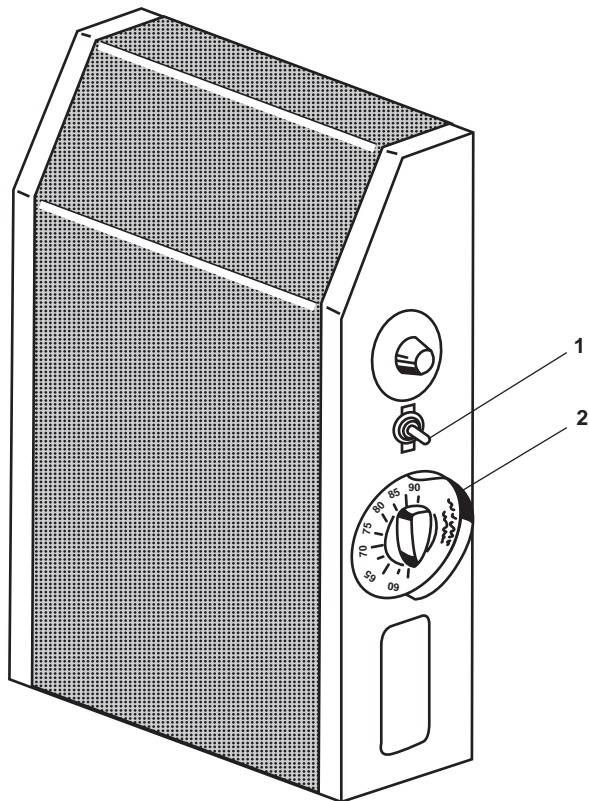

Figure 12. Convection Heater
- a. Set the power switch (figure 12, item 1) to ON.
- b. Set the thermostat (figure 12, item 2) to the desired temperature.